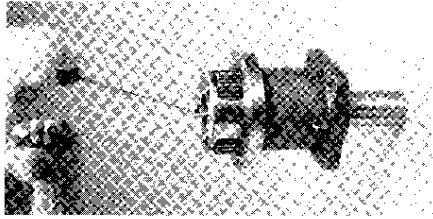

Fig. 5
3. Lubricate planet pin (29) and insert into planet pin hole in planet carrier (20) from splined side of carrier. Drive planet pin (29) through thrust washers and planet gear, into opposite planet pin hole in carrier housing. (Fig. 5 & 9)